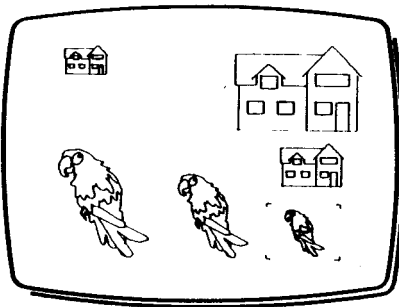

Fig 1
- 1 Select DUPL from the Menu. Menu 2 and the Copy Palette are displayed. A flashing frame cursor marks the last planted library unit (Fig 1).